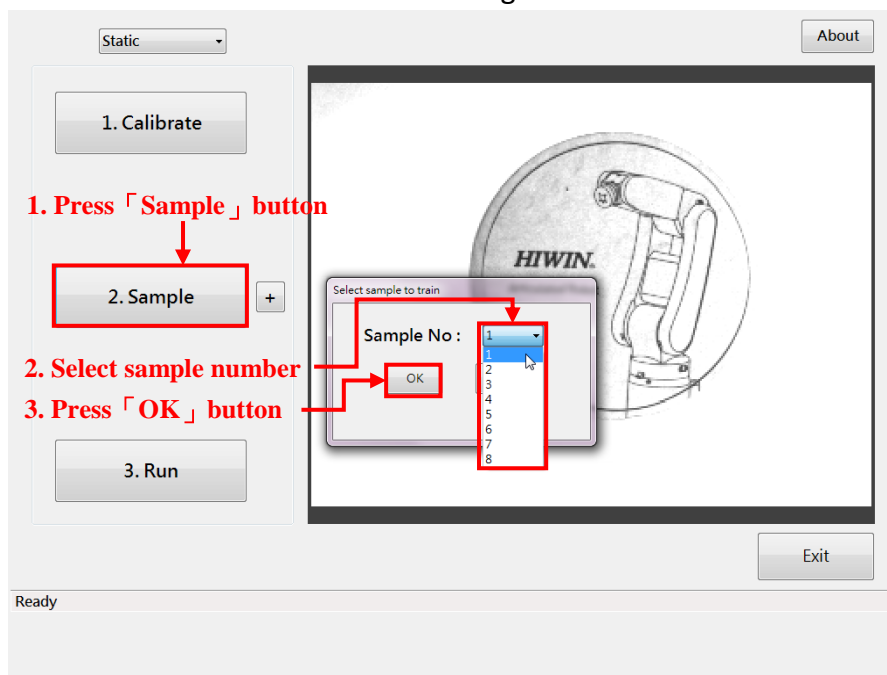

Figure 7-1 Select the sample number
1. As shown in Figure 7-1, press the "Sample" button.